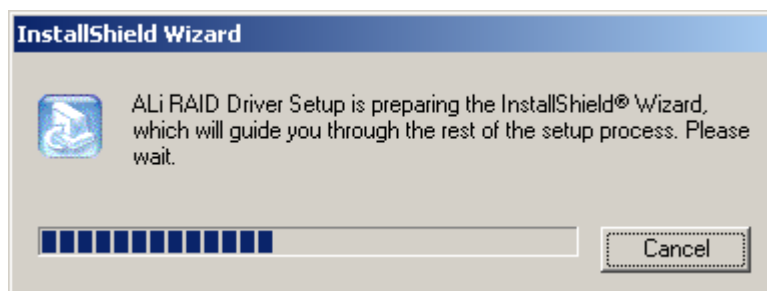

Figure 6-26: Preparing Setup Screen
Step 3: The **Install Shield Wizard** (Figure 6-26) is prepared to guide the user through the rest of the process.